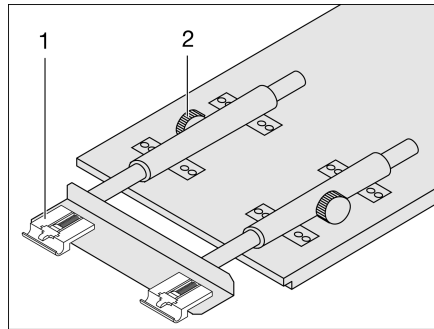

Fig. 97 Extend suspension table
- Undo the knurled screws (Fig. 97,2).
- Lift the table-top slightly and pull out it out as far as possible. The table extension (Fig. 97,1) is fully extended.
- Lift the table-top slightly and push it back as far as possible. The table extension (Fig. 97,1) is fully retracted.